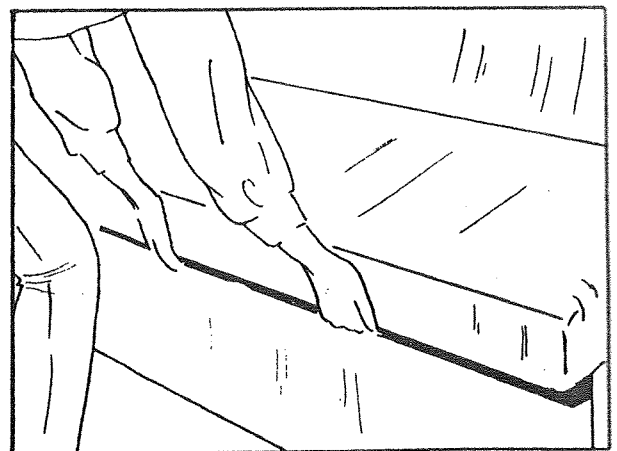

FIGURE 28
37. Lift the backrest off the dinette table and slide the seat cushion inboard. Set the backrest in place against the side wall. Slide the seat cushion in place, making sure that the plastic stops are wedged firmly against the interior of the metal seat frame. (See Figures 28 and 29.)
14. Remove the backrests from their positions. Slide the seat cushions outboard and place the backrests, cushion side down, on the stored dinette table. See Figures 28 and 29.